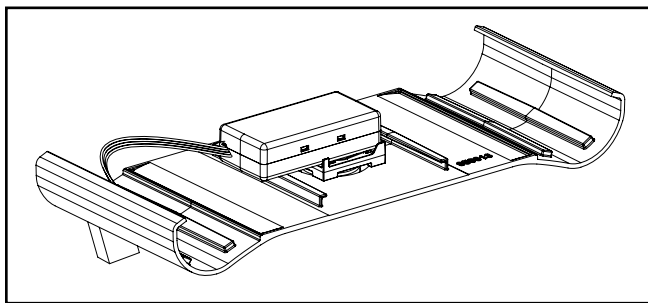

Figure 22
4. The trim piece includes the sensor preassembled. (Figure 22)